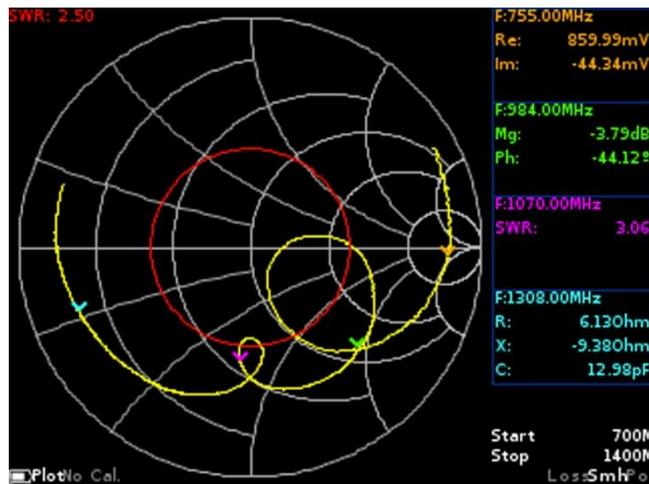

Figure 10.1 – Volpert-Smith chart on the device screen
10.1.2. The grid of the chart corresponds to the impedance 50 Ohm (Figure 10.1). On the screen of the reflectometer it is designated as **Smh**. Enabling or disabling the display of this chart on the screen is made as indicated in par. 9.3.
In our example, in Figure 10.1, a GSM antenna with an operating frequency of 900 MHz is being tested. The chart includes four markers and the display of the VSWR limit line with a value of 2.5. Measurement values at a fixed marker frequency in specified units are displayed to the right of the chart.